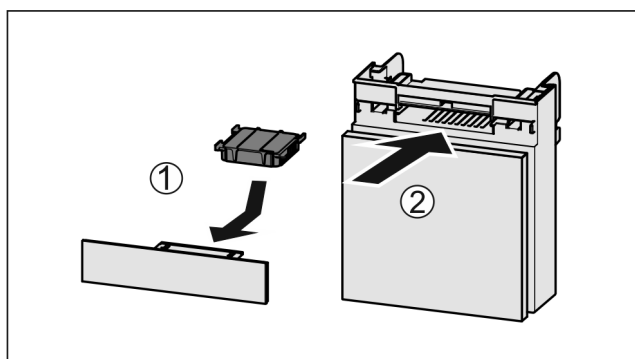

Fig. 150
- ▶ Insert the carbon filter as shown in the diagram Fig. 150 (1).
- ▶ Push the compartment in Fig. 150 (2).